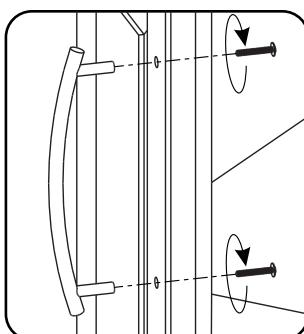

Figure 6
Attach Handles to Doors (O) and (P) with Machine Screws. (See Figure 6)